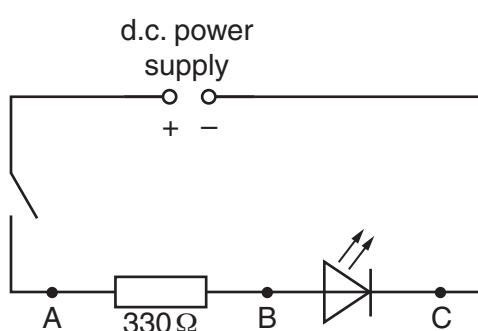

Fig. 3.1
Connecting leads to enable the circuit shown in Fig. 3.1 to be set up (see Note 2).
- The Supervisor must set up the circuit shown in Fig. 3.1. When the switch is closed the LED should light if it is connected the right way round. The resistor and LED must have suitable terminals so that the candidate can connect a voltmeter in parallel with these components. The resistor should be labelled $330\ \Omega$.
- ensure that the circuit shown in Fig. 3.1 is still connected with the switch open.